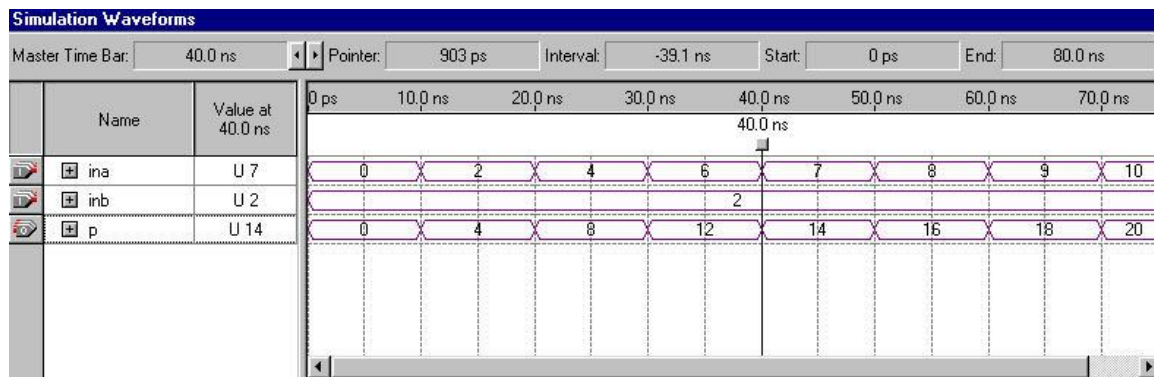

Figure 6-6.
6. Check to see if you get the same results shown in Figure 6-6.